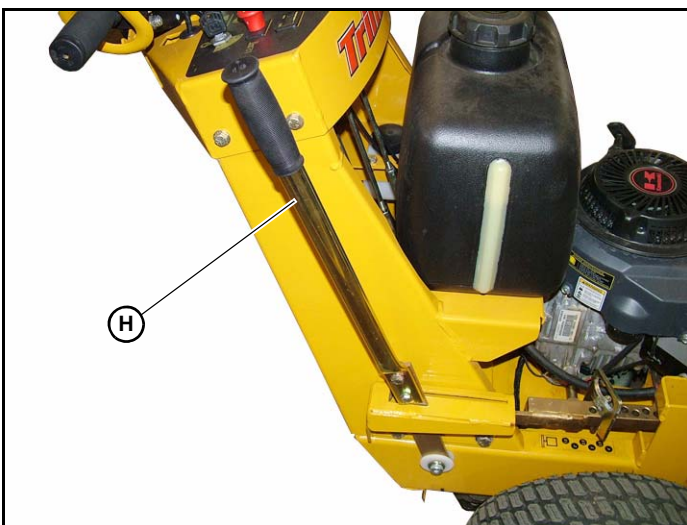

Fig. 3-3
**H. Deck lift lever (Fig. 3-3) —** the deck lift lever is used to raise or lower the deck. Pull rearward on the lever to raise the deck and then place the deck height locking pin into the desired cutting height hole.